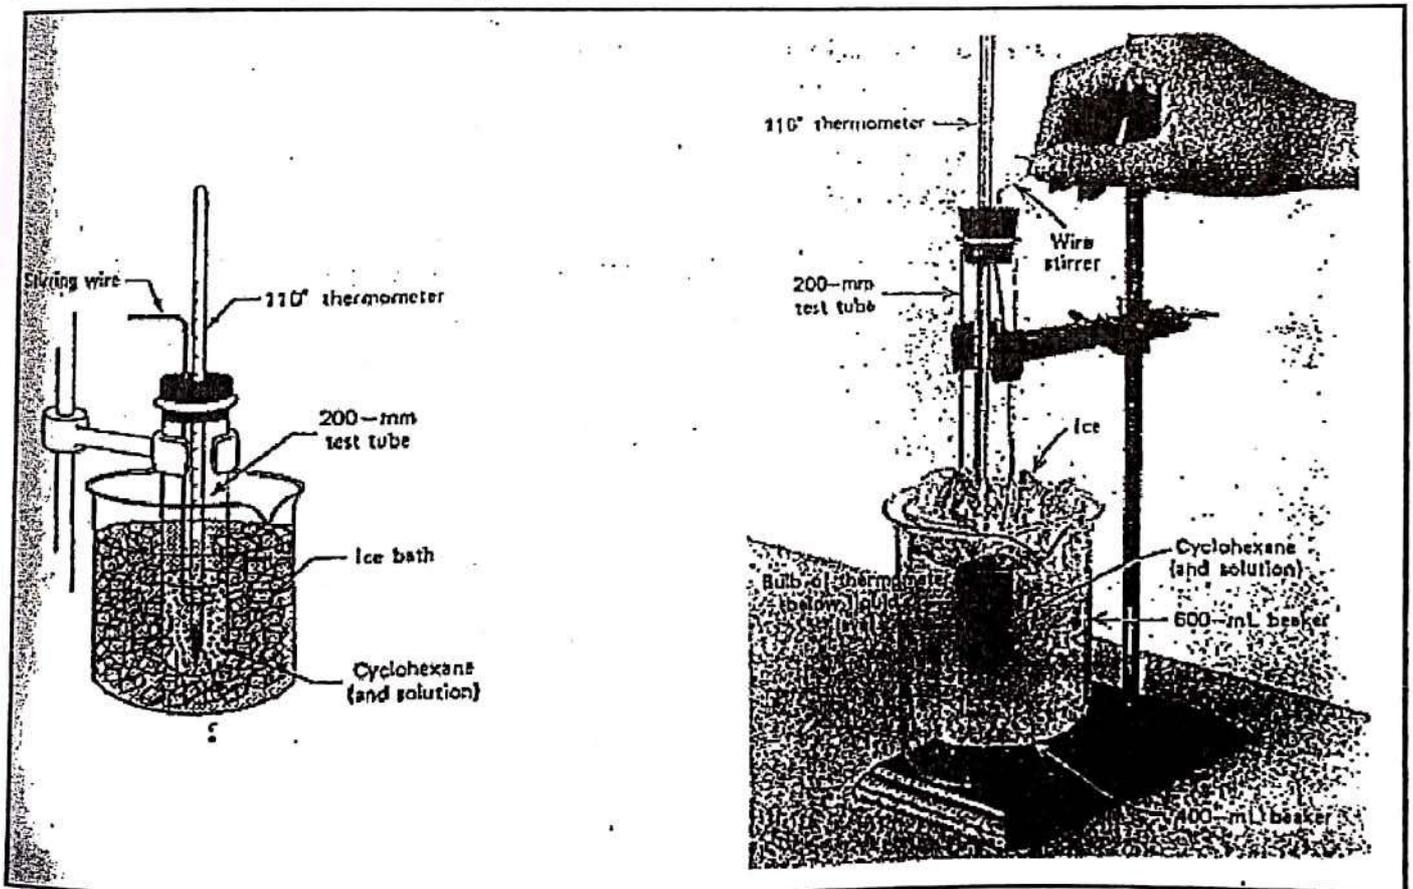

FIGURE 2. Freezing point apparatus
1. Assemble the apparatus shown in Figure (2). Weigh (± 0.01 g) a clean, dry 200 mm test tube. Add approximately 10 g of cyclohexane to the test tube and reweigh (± 0.01 g) the tube and contents. Prepare about 300 mL of an ice-water slurry in a 400-mL beaker. Place the test tube and cyclohexane in the ice-water bath (Figure 2). Insert a thermometer, through one hole of a two-hole stopper, into the solvent to measure the temperature.